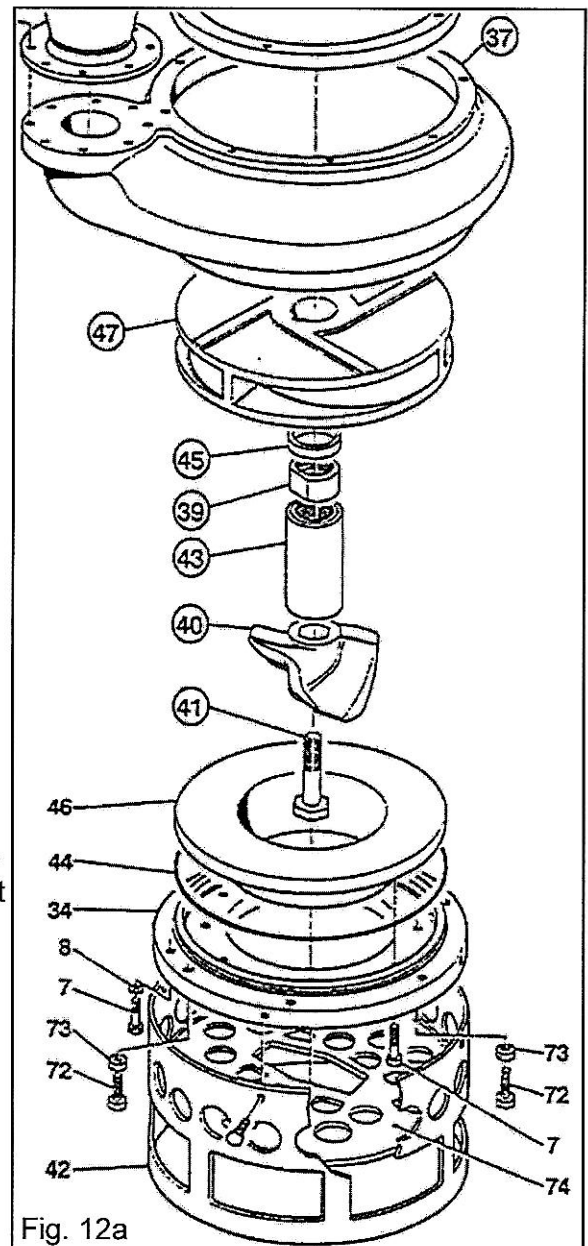

Fig. 12a
- Remove the connection **43** (Fig. 12a), then the nut **39** and the spacer **45**.